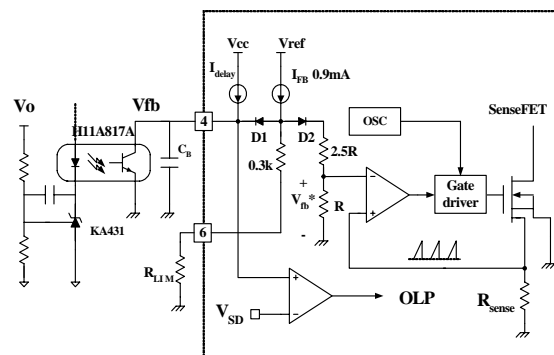

Figure 18. Pulse Width Modulation (PWM) Circuit
2. Feedback Control: The FSCM0765R employs current mode control, as shown in Figure 18. An opto-coupler (such as the H11A817A) and a shunt regulator (such as the KA431) are typically used to implement the feedback network. Comparing the feedback voltage with the voltage across the R_{sense} resistor makes it possible to control the switching duty cycle. When the reference pin voltage of the KA431 exceeds the internal reference voltage of 2.5V, the H11A817A LED current increases, thus pulling down the feedback voltage and reducing the duty cycle. This event typically happens when the input voltage is increased or the output load is decreased.
2.1 Pulse-by-pulse Current Limit: Because current mode control is employed, the peak current through the SenseFET is determined by the inverting input of the PWM comparator (V_{fb}^*) as shown in Figure 18. When the current through the opto transistor is zero and the current limit pin (#5) is left floating, the feedback current source (I_{FB}) of 0.9mA flows only through the internal resistor ($R+2.5R=2.8k$). In this case, the cathode voltage of diode D2 and the peak drain current have maximum values of 2.5V and 3A, respectively. The pulse-by-pulse current limit can be adjusted using a resistor to GND on the current limit pin (#5). The current limit level using an external resistor (R_{LIM}) is given by: